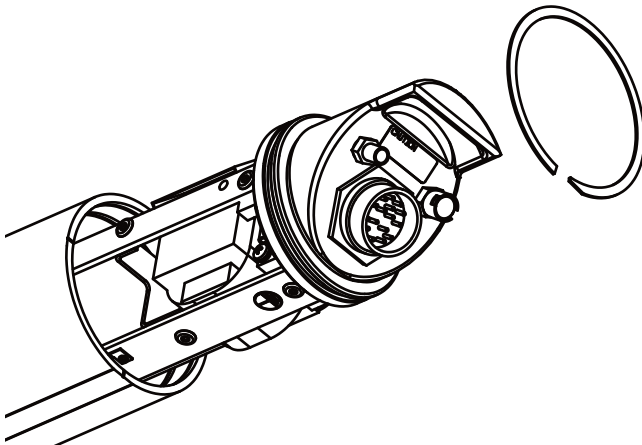

Figure 1 Removing Cradle Assembly
2. Remove the cradle from the housing by first removing the snap ring at the rear of the housing. (see **Figure 1**). Insert a flat-blade screwdriver under the notch in the snap ring, then pry outward to remove the snap ring.